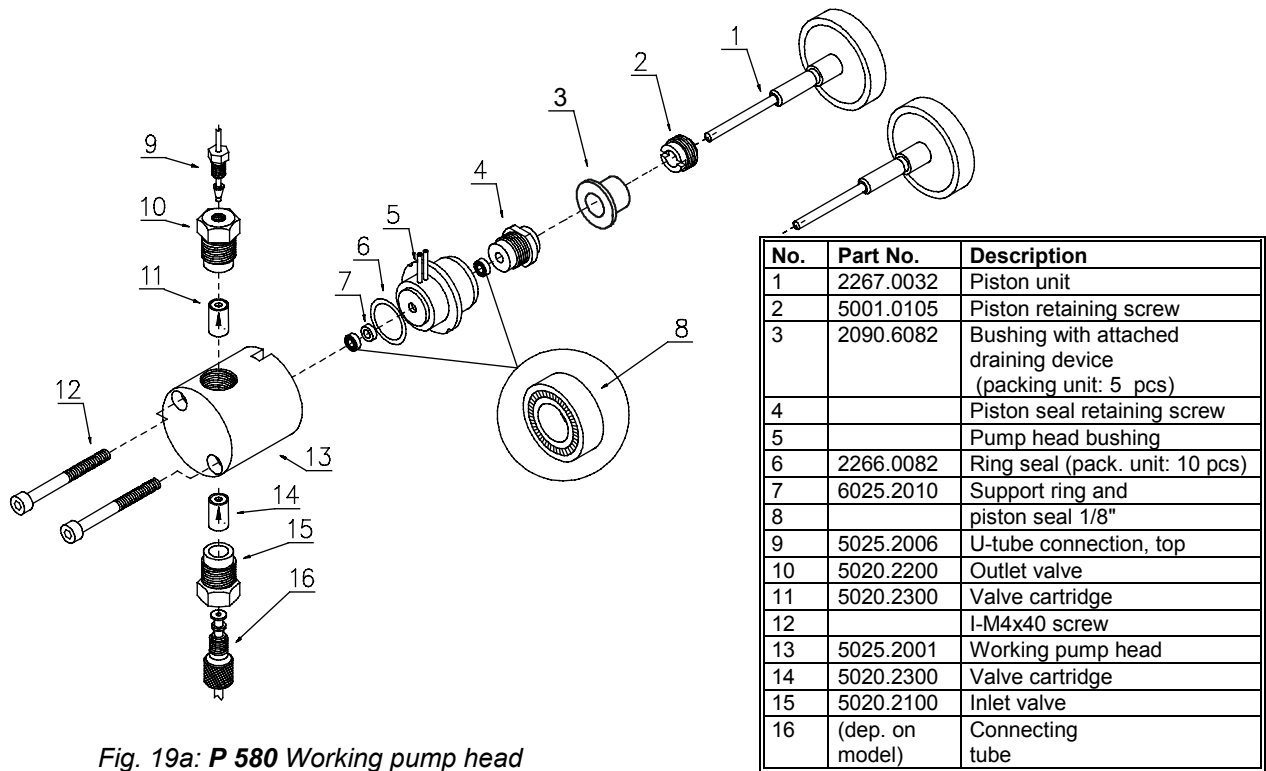

Fig. 19a: P 580 Working pump head
- Insert the new valve cartridge. Ensure that you insert the cartridge in the correct solvent flow direction, indicated by an arrow on the cartridge (see fig. 19a). Tighten the valve.
- Carefully draw the seal-rear flushing chamber (including the seal, see fig. 19a/b) from the piston.
- Before you can loosen the piston retaining screw (see fig. 19a/b, no. 2), pull off the bushing with attached draining device (see fig. 19 a/b, no. 3) to the front.
- Use a disassembled piston to remove the piston seal from the pump head (see fig. 19a/b). Insert the inlet and outlet valve cartridges the wrong way into the disassembled working pump head (arrows now pointing to opposite direction than in fig. 19a). On the equilibration pump head, close the bore hole with a blind plug. Insert the piston tip into the piston seal.
Due to the pressure, the seal will be loosened. In general, this seal can still be used for the rear seal flushing chamber. Do not forget to remove the inlet and outlet valve cartridges and to re-insert them in the right direction (see arrows in fig. 19a). If it is not possible to remove the piston seal in this way, use the tool available from Dionex Softron (pointed screw) or a M4 screw (e.g. used for holding the pump heads). Insert the screw into the seal. Remove the seal. However, this procedure **destroys** the piston seal!
- To remove the piston seal in the rear flushing unit, you must first remove the retaining screw (no. 4 in the fig. 19a/b) on the rear of the pump head bushing.